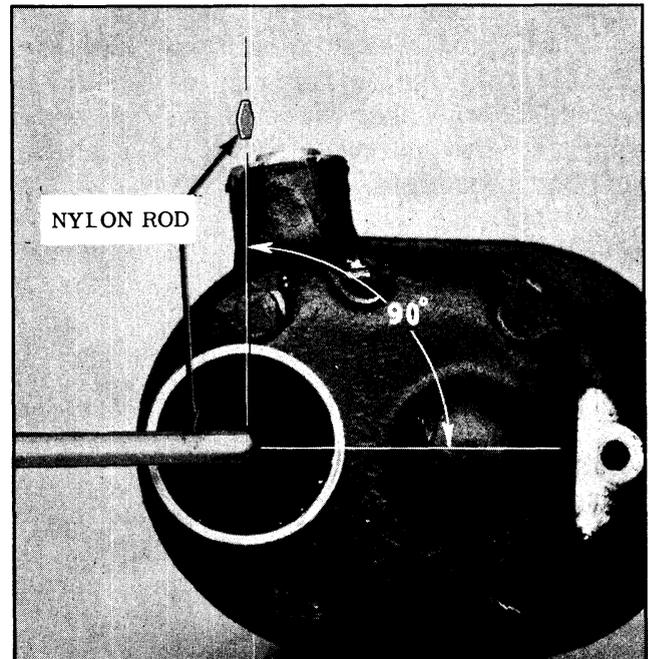

Fig. 15-11 Installing Nylon Rod
- B. Connect motor to a 12-volt source (with motor operating in DOWN position) and insert end of nylon rod into drive unit as shown in Fig. 15-11. As nylon rod is being drawn through drive unit, guide mast sections and body tube into place on drive cover.